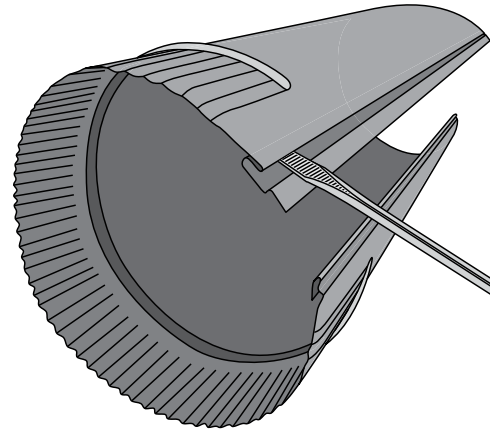

FIG. 15a
- a. Use a flathead screwdriver to open up the lip of the seam [FIG. 15a].